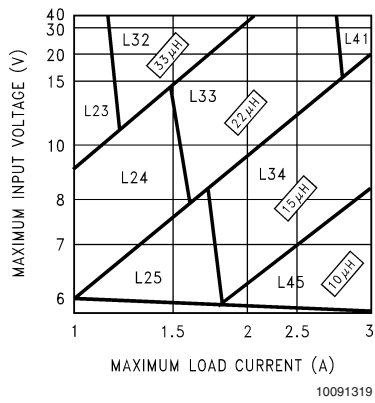
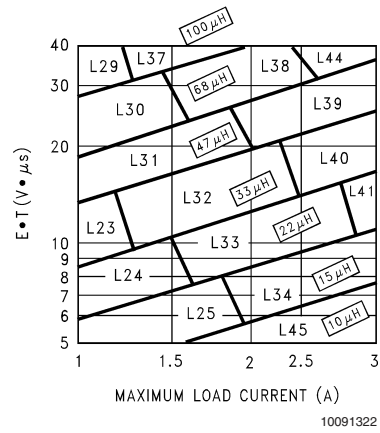

FIGURE 3. LM2673-3.3
FIGURE 6. LM2673-ADJ
Step 3: Determine the inductor required by using one of the four nomographs, *Figure 3* through *Figure 6*. Table 1 provides a specific manufacturer and part number for the inductor.
Step 5: Determine an input capacitor from Table 4 for fixed output voltage applications. Use Table 2 to find the specific capacitor type. For adjustable output circuits select a capacitor from Table 2 with a sufficient working voltage (WV) rating greater than $V_{in\ max}$, and an rms current rating greater than one-half the maximum load current (2 or more capacitors in parallel may be required).
Step 3: Use the nomograph for the 3.3V device, *Figure 3*. The intersection of the 16V horizontal line (V_{in max}) and the 2.5A vertical line (I_{load max}) indicates that L33, a 22μH inductor, is required.
Step 3: To use the nomograph for the adjustable device, *Figure 6*, requires a calculation of the inductor Volt•microsecond constant (E•T expressed in V•μS) from the following formula:
Using Figure 6, the intersection of $27V \cdot \mu s$ horizontally and the 2A vertical line ($I_{load} \max$) indicates that L38, a 68 μH inductor, should be used.
Important Note: When using the adjustable device in low voltage applications (less than 3V output), if the nomograph, Figure 6, selects an inductance of 22 μH or less, Table 6 does not provide an output capacitor solution. With these conditions the number of output capacitors required for stable operation becomes impractical. It is recommended to use either a 33 μH or 47 μH inductor and the output capacitors from Table 6.